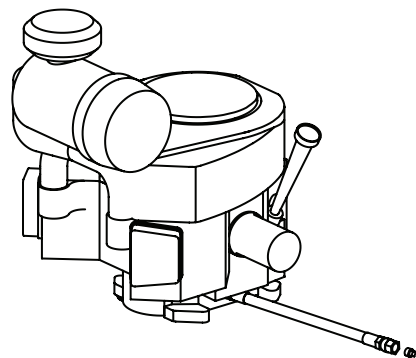

Fig. 32
2. Locate the oil drain hose on the engine (Fig. 32).
5. While holding the free end of the oil drain hose over the oil collection container, unscrew the square-head hose plug from the end of the hose (Fig. 32 on page 24). Drain the engine oil into the collection container.